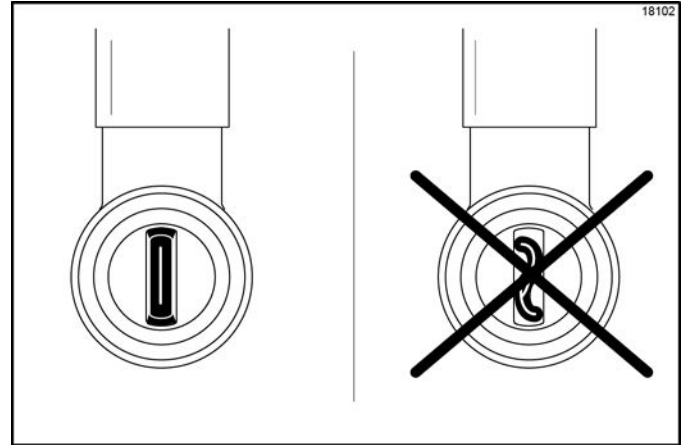

Figure 6-81
16. Inspect the duckbill valve for proper installation inside the syrup nose fitting. The tip of the duckbill valve must be flat to seal the syrup line. (See Figure 6-81.)